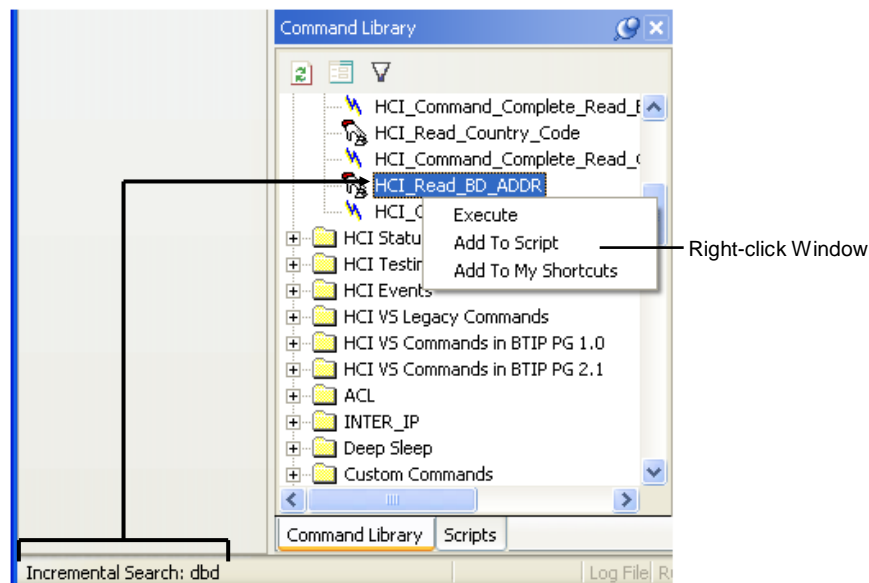

Figure 22: Command Library Tab
- **To create a shortcut for a command:** Right click on the desired command in the **Command Library** tab, and select the **Add to My Shortcuts** option, as shown in Figure 22.